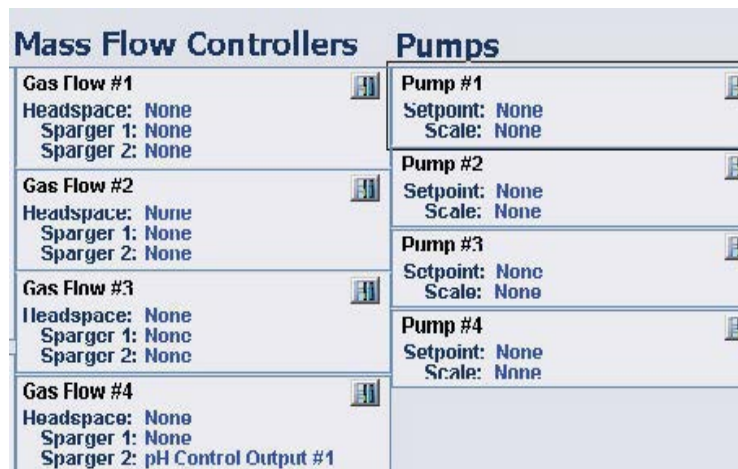

Figure 4.12. Mass Flow Controller boxes.
1. Click the MFC box that you have assigned for CO₂ output (Figure 4.12). In Figure 4.12, Gas Flow #4 is selected.